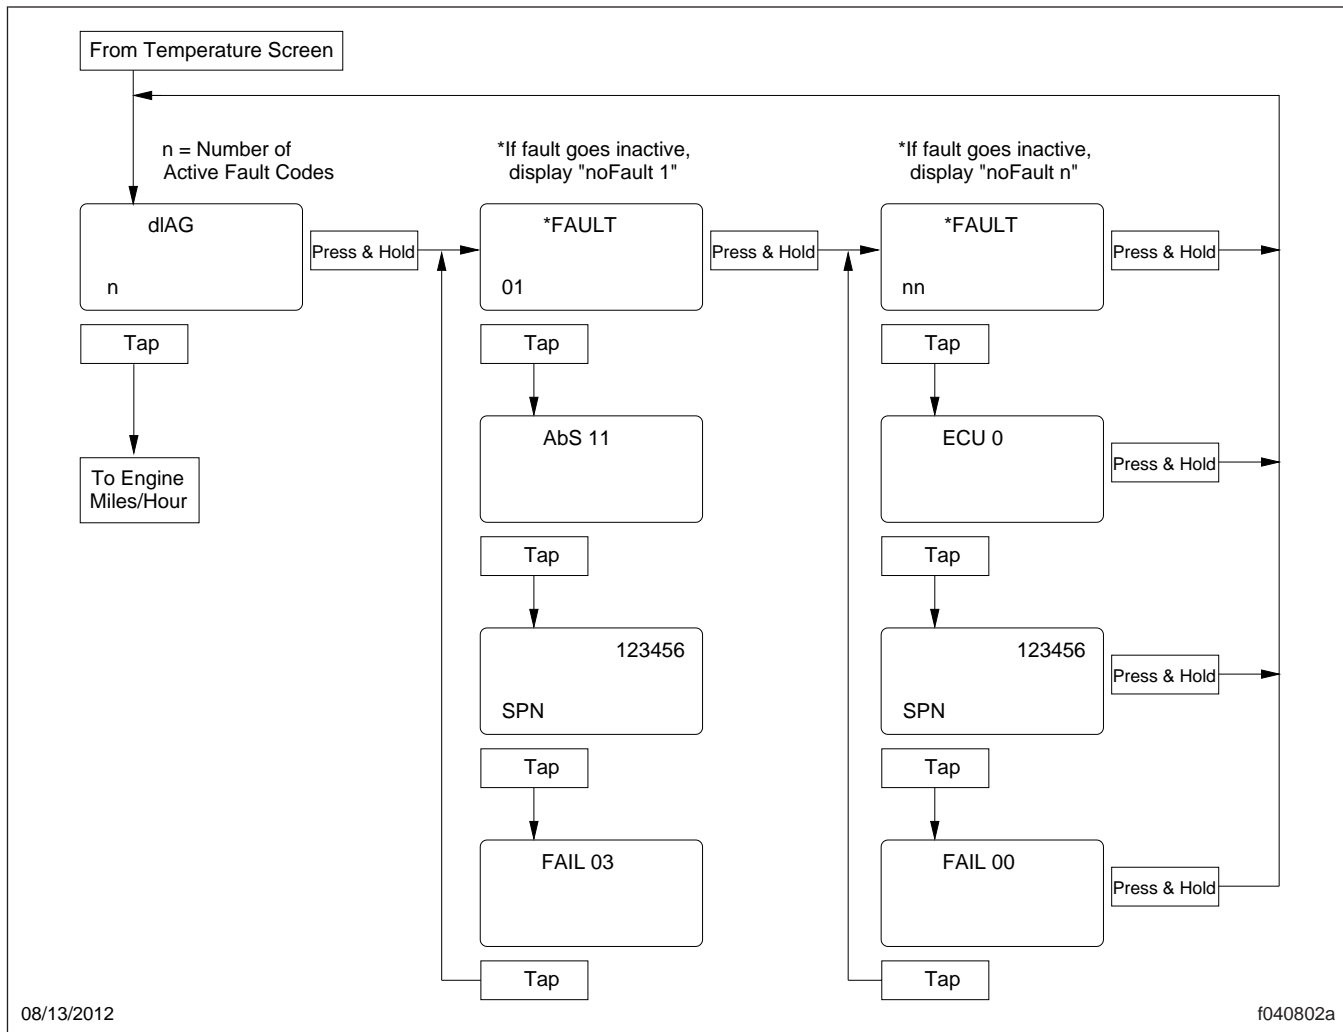

Fig. 2.7, ICU4 Diagnostic and Engine Display Screens
During vehicle start-up, with the parking brake set, the ICU4 will display any active fault codes for three seconds each until the parking brake is released. If service cycle screens are enabled and service distance or time has been exceeded, the text SERVICE HOUR/MI (KM) will be displayed to inform the driver that the service interval has been exceeded and vehicle service is required. See Fig. 2.7 for a diagram of the diagnostic and engine display screens.